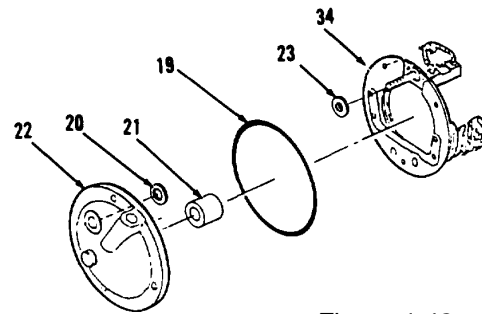

Figure 4-42.
14. Remove and discard preformed packing (19) and insulator (20) from end frame (22, Figure 4-42).